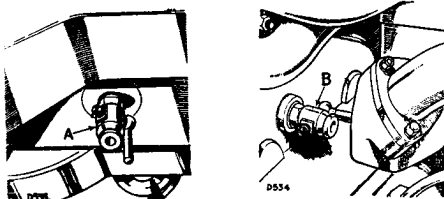

Fig. 48. Drain taps
- (1) Examine the hose connections, which should be free from cracks or signs of peffishing. Tighten the hose clips as necessary.
- (2) Examine the cylinder block core plugs for signs of leaks. Renew if necessary.
- (3) Check the following connections for signs of leakage. Inlet manifold to outlet pipe; inlet elbow to thermostat; inlet pipe to coolant pump.
- (4) Check connection between coolant pump and thermostat housing. Check coolant pump and thermostat housing for signs of leakage.
- (5) Check that the radiator drain tap and cylinder block drain tap are fully closed. See para. 97, Fig. 48.
- (6) Ensure that the bolts securing the radiator block to the grille panel are tight.
- (7) Check that the bolts and nuts securing the fan to the fan pulley are tight.
- (8) Check that the bolts securing the coolant pump and the thermostat housing to the cylinder block are tight.
- (9) Check the fan belt tension and adjust if necessary. See para. 96.
- (10) Check that the radiator block is not damaged.